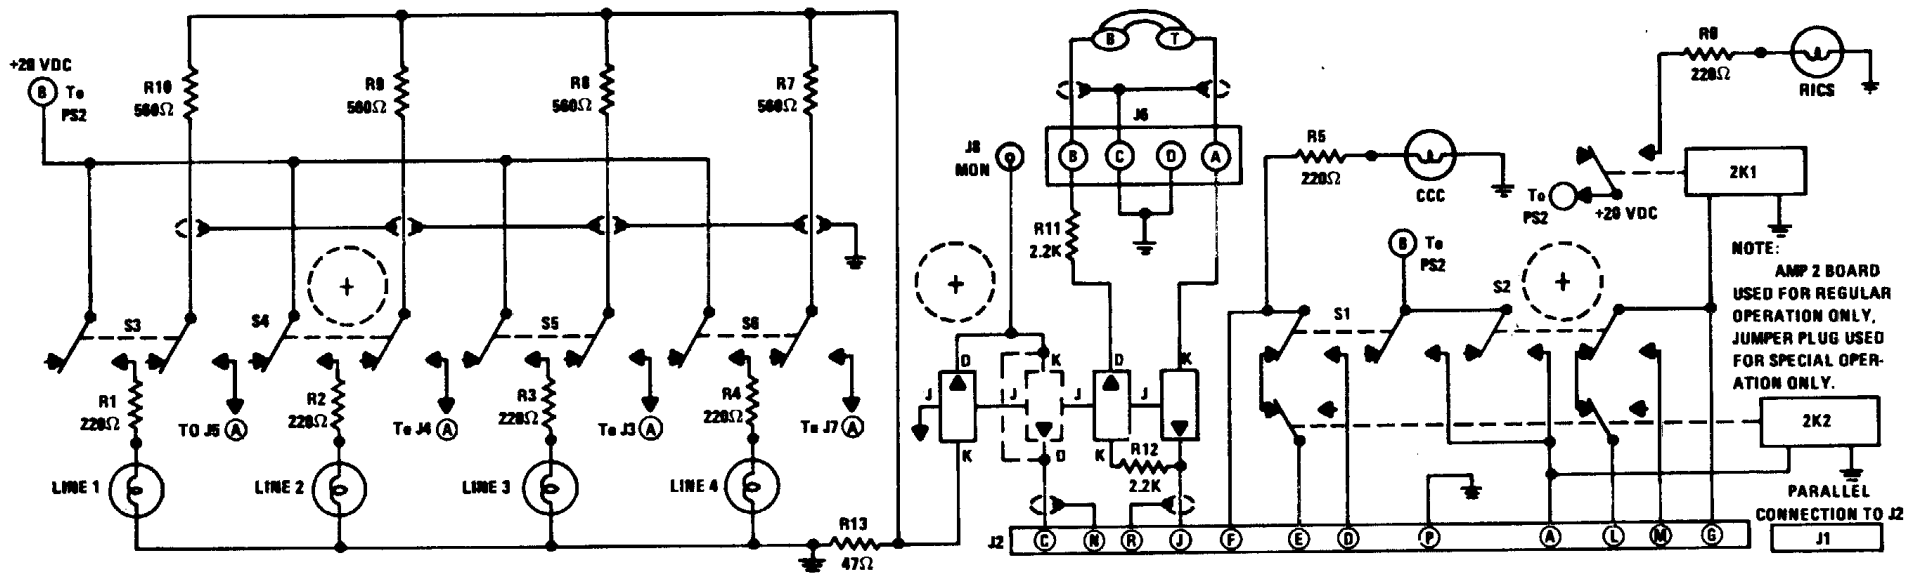

Figure 7-1. Wiring Diagram, Telephone Set TA-676/G
(1) *Wiring Diagram.* See figure 7-1 for the Telephone Set TA-676/G wiring diagram. This diagram outlines the electrical means of performing maintenance on this unit. The set, as shown, consists of connectors, audio volume compression units (AMP 1 through AMP 4), switches, relays, and associated wiring.
Defective power supply PS2	Refer to figure 7-1. Check 115 Vac input to power supply PS2. Check for 20 Vdc at output of power supply. If no output power, supply is defective. Remove and replace faulty PS2 components as required.